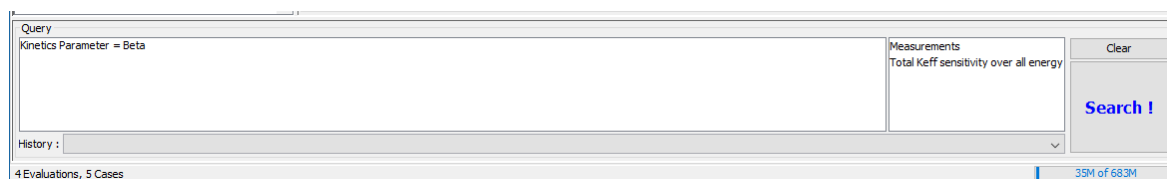

Figure 2: Query Pane located at the bottom of the search tab
The query pane, located at the bottom of the screen, displays the search criteria currently set. Also shown to the left of the search button, are the columns selected to be displayed in the results window (Measurements and Total  $k_{eff}$  Sensitivity in the example shown in Figure 2).
**Note:** The query panel to the left of the search button indicates the data that will be returned from the search; if a search is executed and none of the cases contain the desired data (Total  $k_{eff}$  Sensitivity over all energy for instance in Figure 2) the query will fail. The user is redirected to the no results screen. The user should then consider deleting the offending items from the query panel by selecting the text and pressing the delete button or by pressing the "Clear".